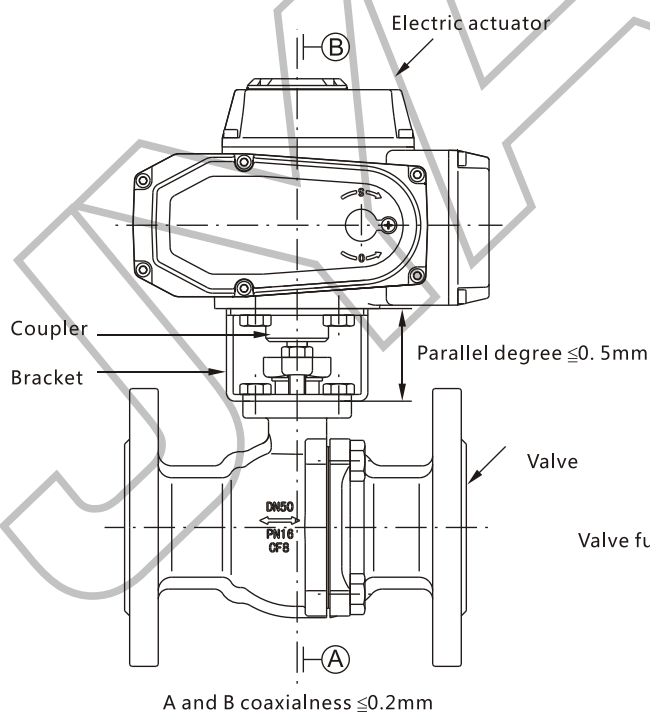

Fig. 4
- (1) Bracket and coupling shall be designed and processed by specialized technicians and conform to remark requirements in Fig. 4;
- (2) The axis hole processing on both ends of coupling shall guarantee necessary precision, and remove transmission gap as far as possible, in case the valve has return difference while working;
- (3) You shall strictly guarantee position of axis holes on both ends of coupling. Or else it may go beyond actuator's designed scope of work. And the result is actuator travel range can not adjust and thus the valve cannot work normally.